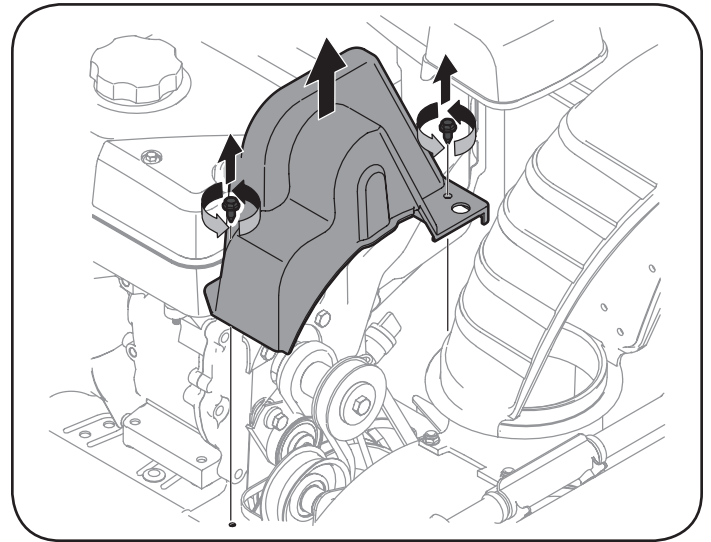

Figure 67
2. Remove the plastic belt cover on the front of the engine by removing the two self-tapping screws. See Figure 67.